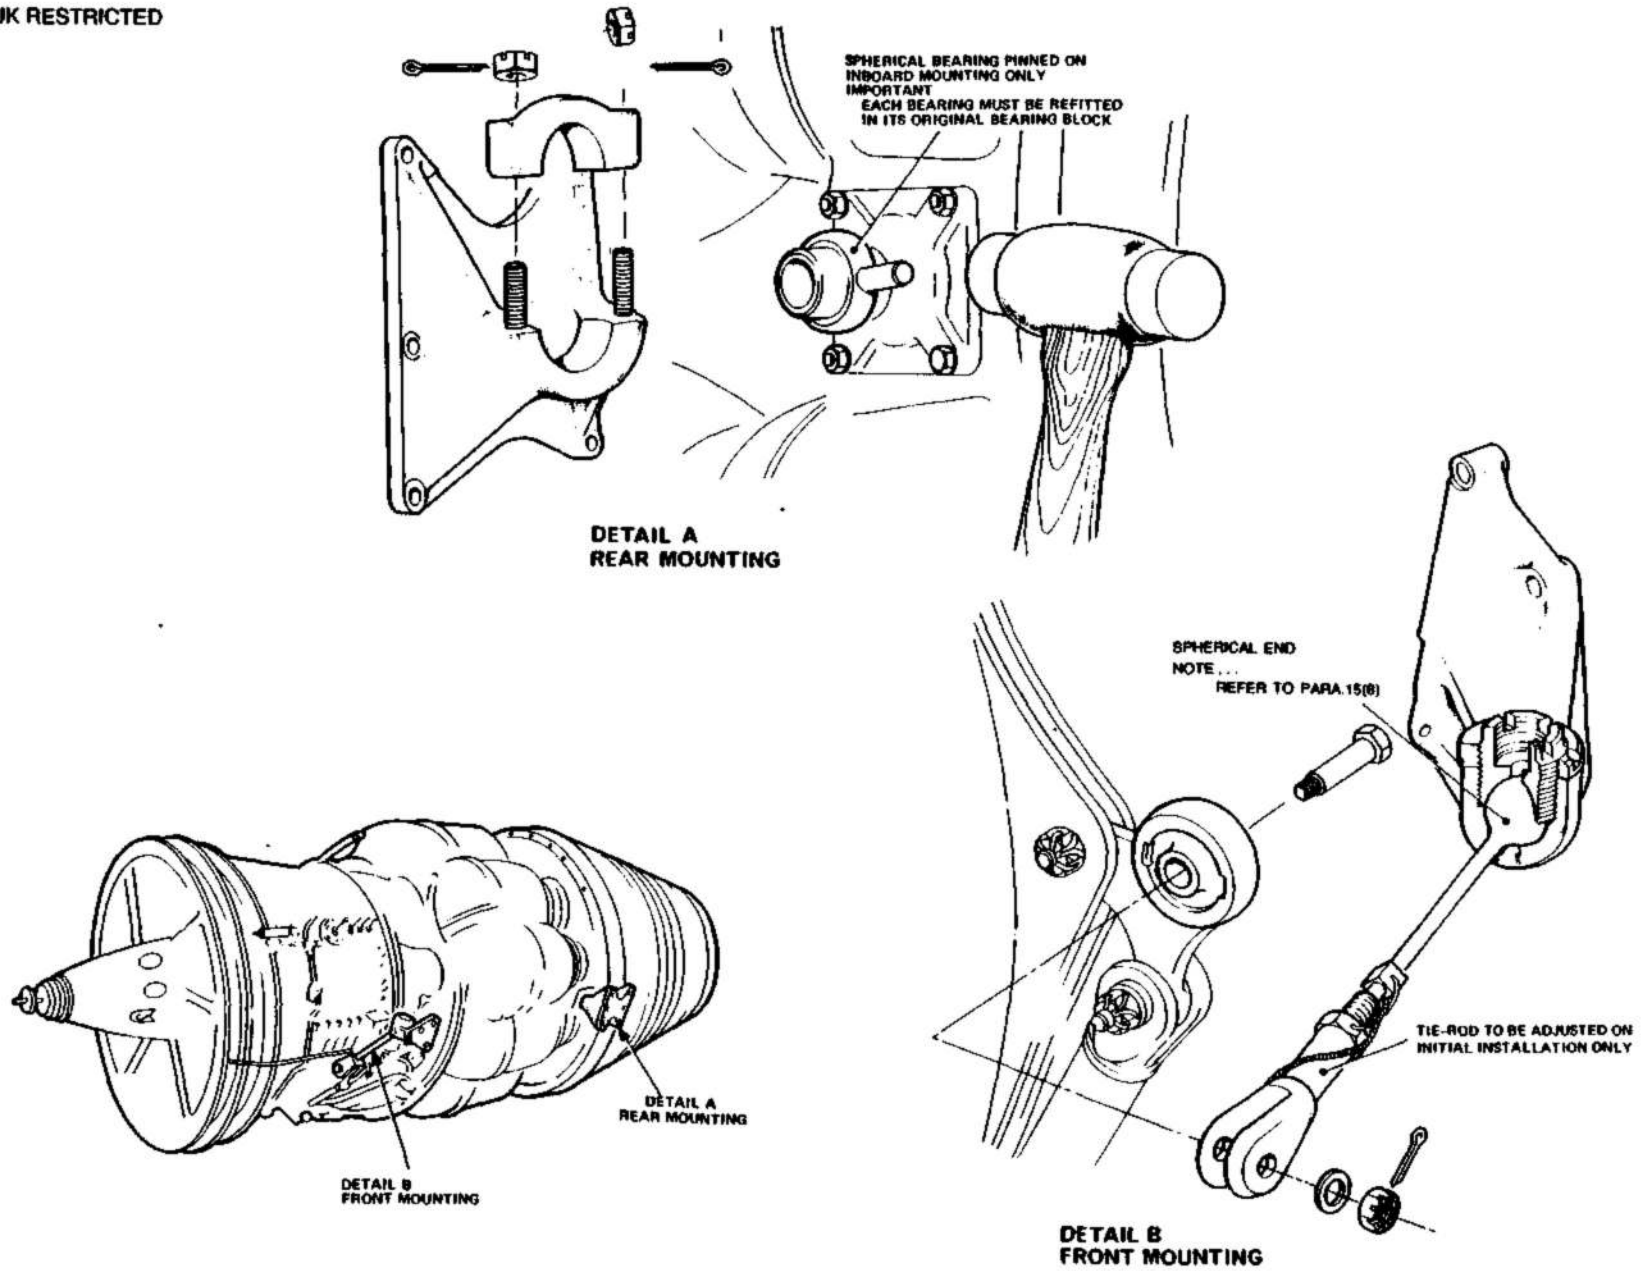

FIG.1. ENGINE MOUNTINGS
Engine mountings (fig.1)**WARNING**
(7) Secure the engine rear mounting spherical bearings with their clamping caps.
◀ (8) Set the front engine mounting (fig.1, detail 'B') as follows: Grease the spherical end of the tie-rod and adjust the retaining plug, which secures the spherical end, until the tie-rod just falls under its own weight. Lock the retaining plug with its lock nut and wire lock in this position. Finally, lock both front and rear engine mountings (fig.1, detail 'A' and 'B'). ▶
(9) Refit the turbo-starter.
(10) Remove the sling. For installed E.C.U.s, remove the aircraft main jack and engine compressor casing support block.
(11) Lower the aircraft on to its wheels.
(12) Remake all connections between the